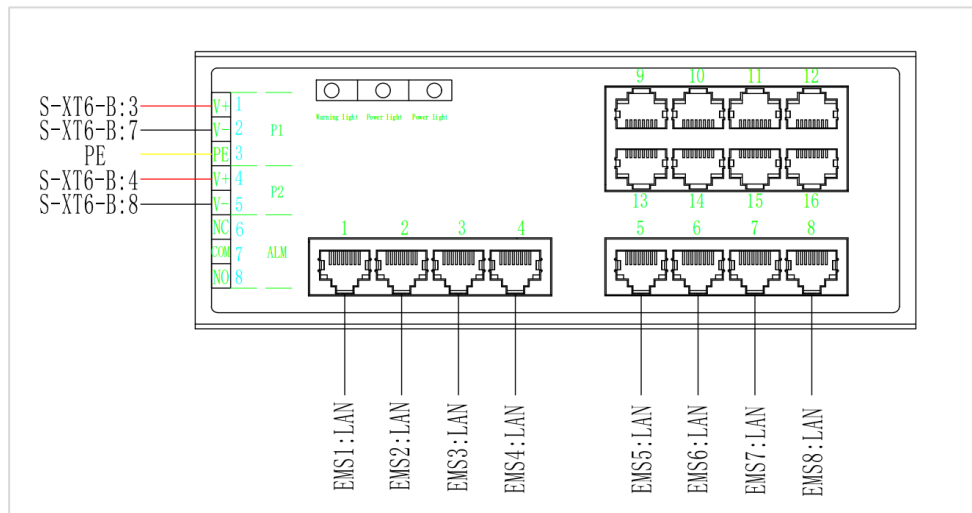

Fig. 7-3
3. The wiring diagram of the network switch is shown in the following figure 7-3: